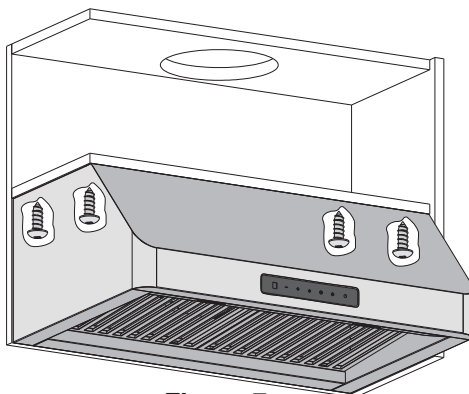

Figure 7
- Attach the outlet to the hood, then install the cooker hood below the cupboard. Tighten the range hood with 4 screws. See figure 7.